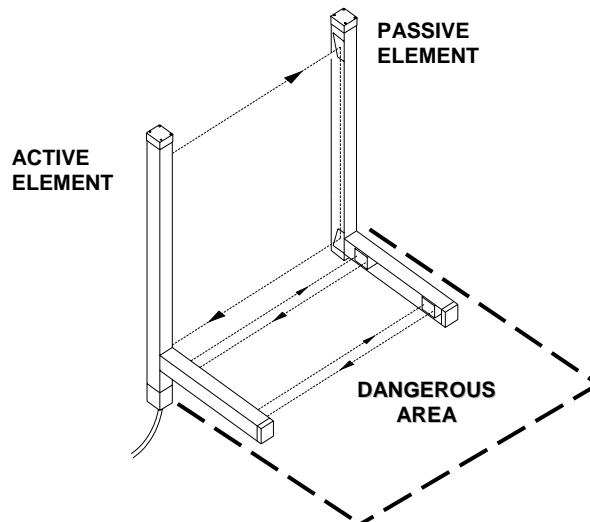

Figure 9
In this model, the sensors 1 and 2 are on the same side of the vertical light curtain and are placed in front of the guarded opening (Figure 9).
-  **To guarantee the safety operation of the ML series, the horizontal muting sensor must be mounted *INSIDE* the dangerous area (dashed in Figure 9).**